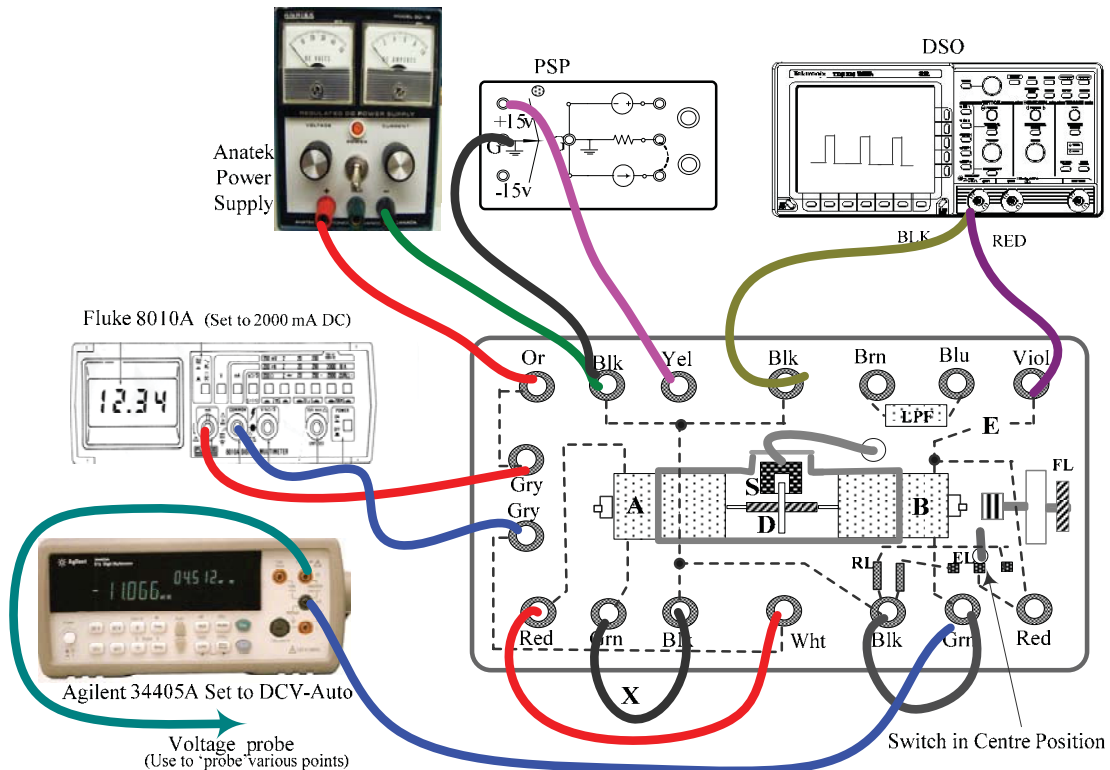

Figure 5.3 : Experimental Setup
1. Connect the circuit exactly as shown in the detailed diagram of Figure 5.3. Make sure that both power supplies are switched off. Set the Fluke 8010A DMM to read DC, 2000mA and set the Agilent 34405A DMM to DCV-Auto. Set up the DSO to trigger on Ch1 input. Turn the ‘current’ control on the Anatek power supply to its fully CW position. On the experimental rig: **Make sure that loading screw FL is unscrewed so that it is not in contact with the motor axle** and **make sure that the switch EL is in its centre position.**